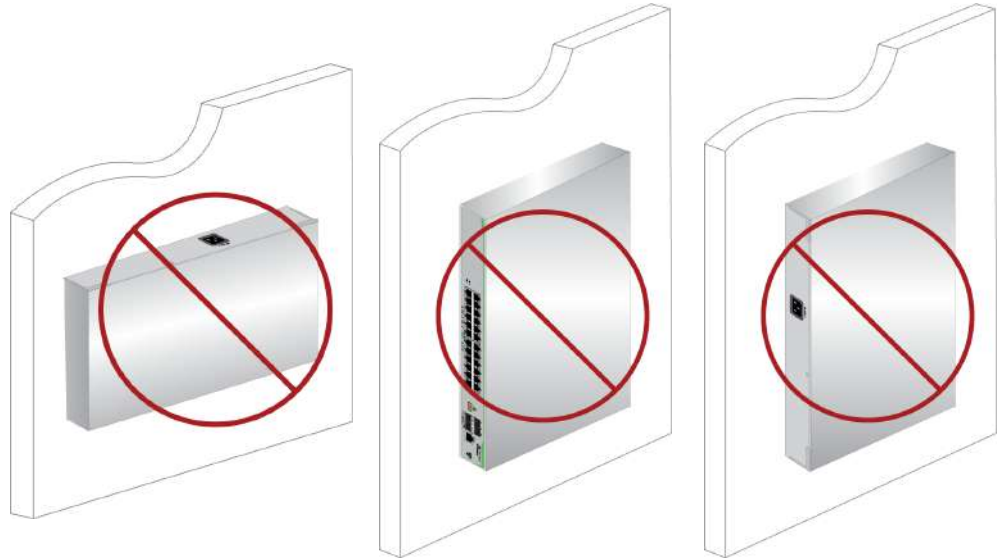

Figure 24. Incorrect Wall Installation
- ❑ Mounting the front panel facing down, left or right on the wall is incorrect. See Figure 24 on page 51 as examples.